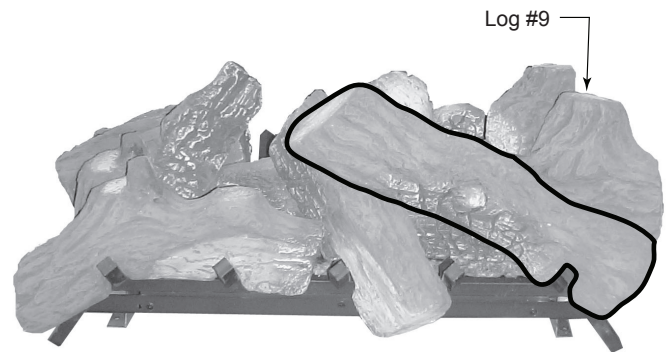

Figure 5.9 - Place Log #9
- Place log #9 on farthest right grate tine by aligning 'V' notch in bottom of log with grate tine. Place rectangular notch in bottom of log onto rectangular protrusion on log #8. *Figure 5.9*